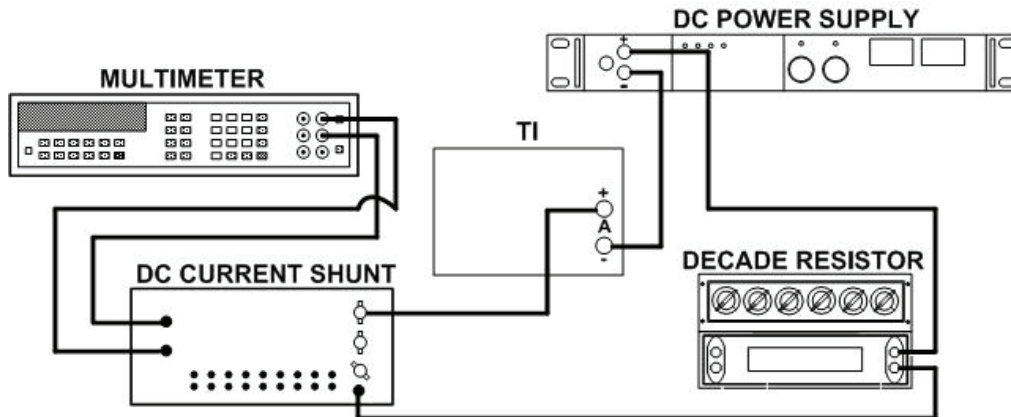

Figure 2. Milliampere measurement - equipment setup.
- (1) Connect equipment as shown in figure 2.